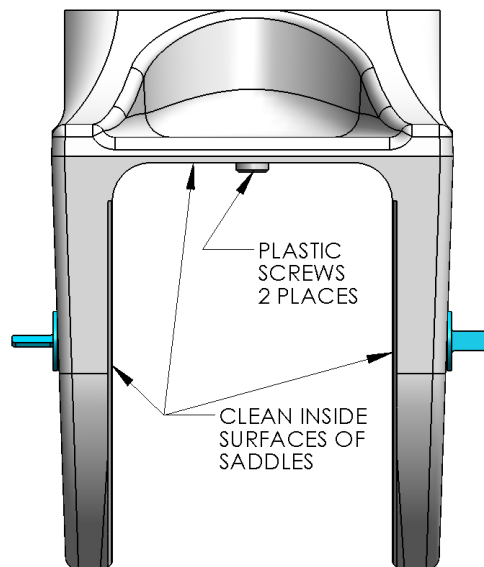

FIGURE 11 - SADDLE CLEANING
- 2) Check that each saddle contains 2 plastic screws which will insure an adhesive gap of .080" (2 mm) on top surface of hull as shown in Figure 11. Do not remove these screws.
- 3) Thoroughly clean with alcohol or acetone the inside surfaces of Seakeeper foundation saddles to remove any contaminants as shown in Figure 11. Use new paper towels for cleaning, not shop rags.